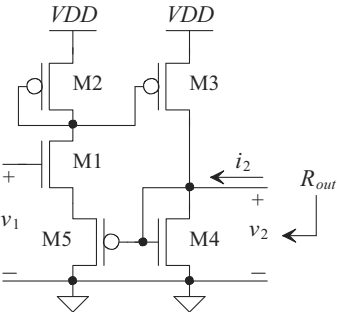

Figure 31.65 Feedback amplifier used in problem 31.27.
- 31.27** A feedback amplifier is shown in Fig. 31.65. Identify the feedback topology and determine the value of the voltage gain, $\frac{v_2}{v_1}$ and R_{out} .